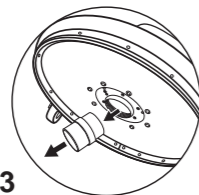

Fig.3
3. This machine includes a plastic tube located at the lower part of the plate that avoids brush skirt damage during transportation. Remove this piece by pulling it outwards (Fig. 3).